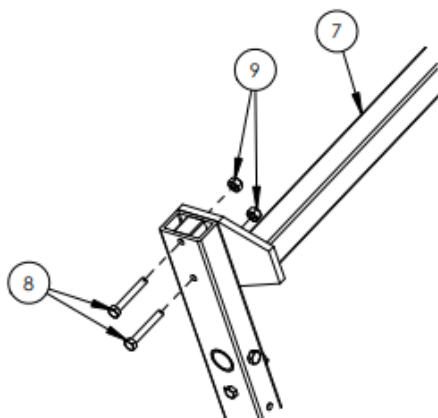

Figure 2.12: Installing Stabilizer Bar to Extension Arms
Install the stabilizer bar (7) to the tops of the extension arms with the provided 5/16" x 2-1/4" bolts (8) and nuts (9), see *Figure 2.12*.